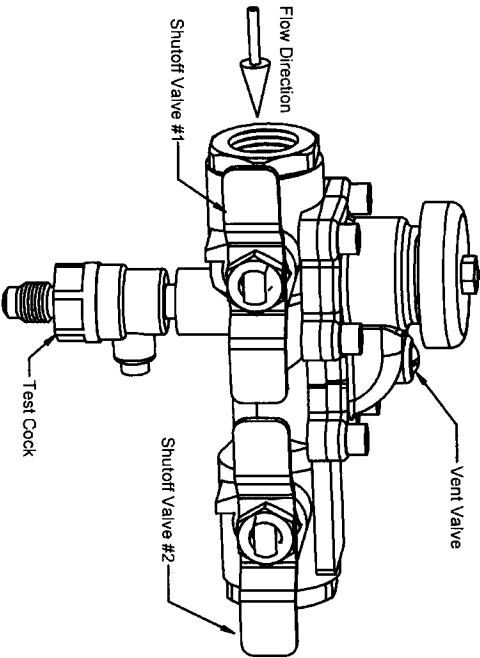

Figure 1
**IMPORTANT!** Install SVB by using wrench only on brass retainers (not on plastic body). SVBs must be installed horizontally with the canopy in the upright position as shown in figure 1. The critical level of the valve must be above the highest water level downstream of the valve.